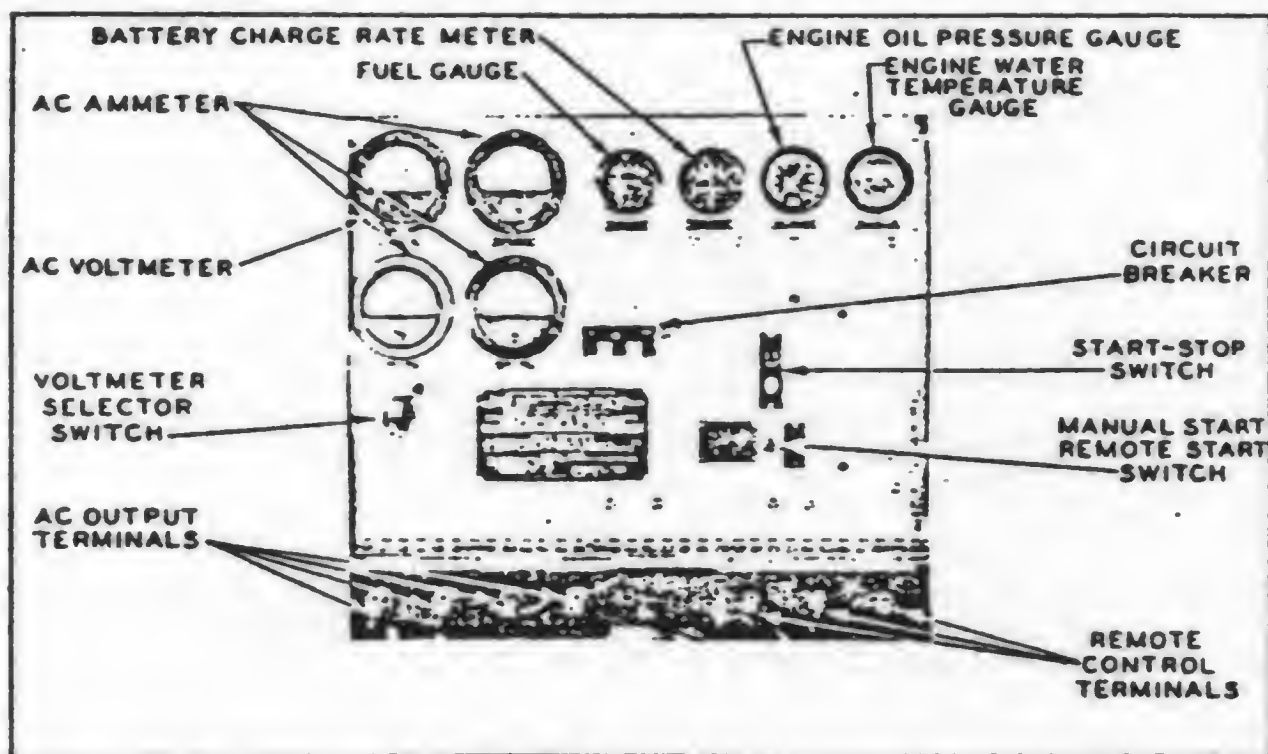

FIG. 3 CONTROL PANEL
*b. Control Panel Equipment.*—The following pieces of equipment are mounted on the control panel. (See Figs. 3 and 4).
(3) *Remote Control.*—If it is desired to start and stop the power unit from one or more remote points, it will be necessary to install remote start and stop switches at each of the remote points and to connect them with the REMOTE CONTROL terminals, (Fig. 3), below the control panel of the power unit. Use 2-pole push button type switches, one for starting and one for stopping. Connect the insulated terminal of the starting switch to the REMOTE CONTROL terminal R. Connect the
(1) *Circuit-Breaker.*—Make sure that the CIRCUIT BREAKER (Fig. 3) is in the OFF position.